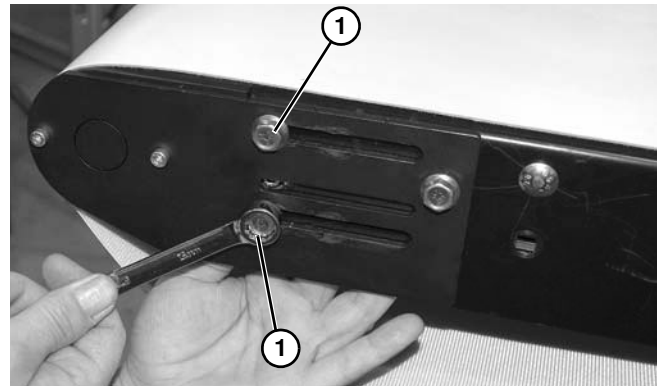
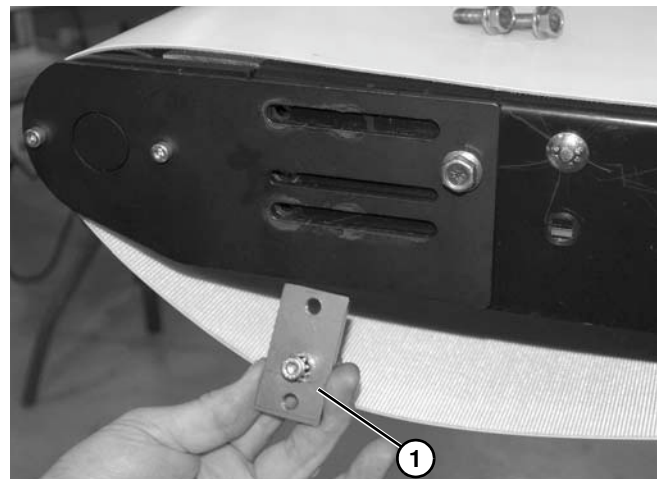

Figure 101
Figure 102
3. Remove two screws (Figure 101, item 1) and tensioner assembly (Figure 102, item 1) from tension tail end of conveyor.